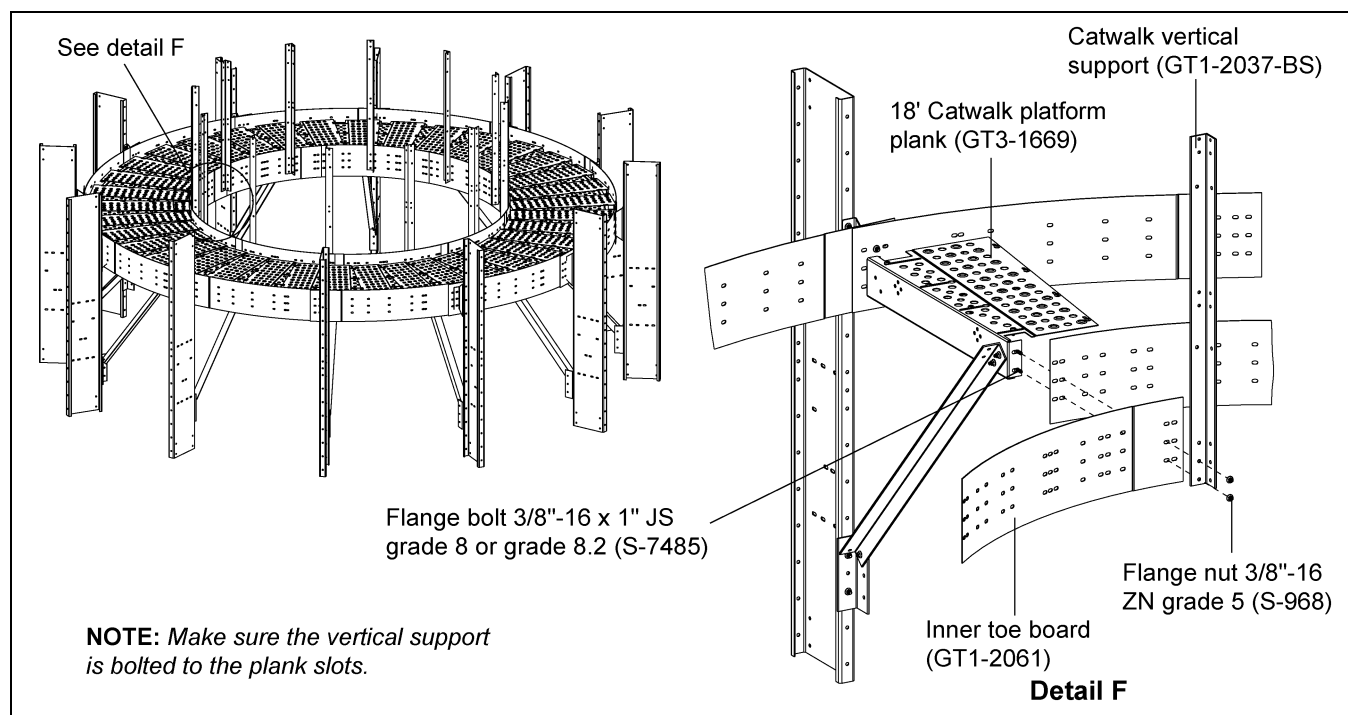

Figure 5J
1. Install all the inner toe boards (GT1-2061) to the planks (GT3-1669). *(See Figure 5J.)*
2. When installing the inner toe board with planks, install the catwalk vertical support (GT1-2037-BS) simultaneously at proper locations using 3/8"-16 x 1" JS grade 8 or grade 8.2 bolts (S-7485) and 3/8"-16 ZN grade 5 nuts (S-968). *(See Figure 5J.)*